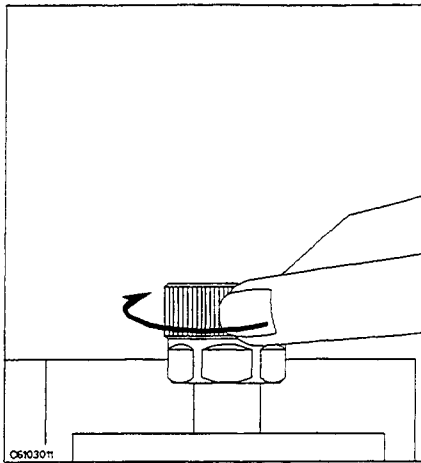

Figure 3-4.
4. Turn the APC-7[®] connector on the test head as shown in Figure 3-4.